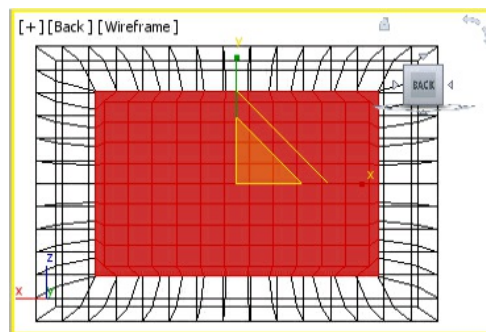

Figure 8-135 *The selected polygons uniformly scaled to 90 percent*
16. Right-click on the **Select and Uniform Scale** tool from the **Main Toolbar**; the **Scale Transform Type-In** dialog box is displayed. In the **Offset: Screen** area, set the value **90** in the % spinner and press ENTER; the selected polygons are uniformly scaled to 90 percent, as shown in Figure 8-135. Next, close this dialog box.